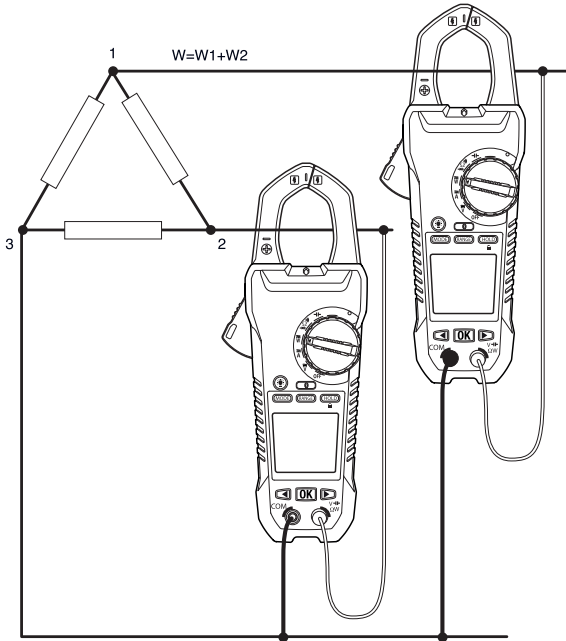

Figure 5.3 Three-phase three-wire measurements
The power of a three-phase three-wire wye (star) configuration is measured in two steps, in accordance with Figure 5.3. The total power is the sum of the two measurements: $W = W_1 + W_2$.
3. Take two measurements of the active power, in accordance with Figure 5.3.